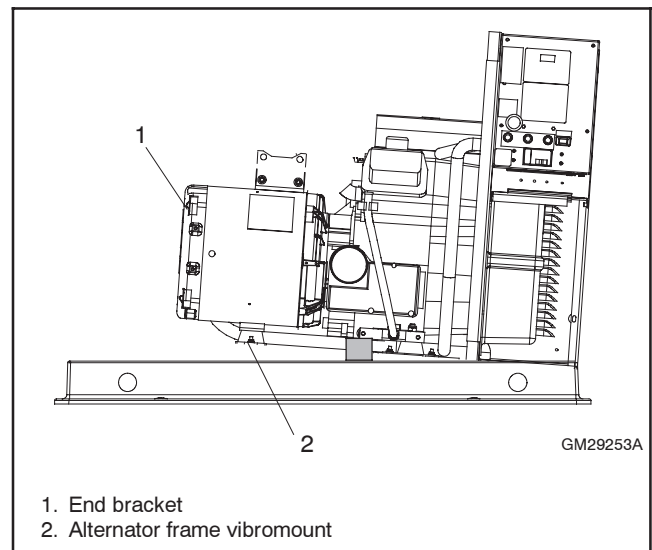

Figure 7-14 Generator Set, Right Side (typical)
- a. Align the stator so that the alternator frame vibromount points down toward the generator base. See Figure 7-14. Install the stator assembly around the rotor.